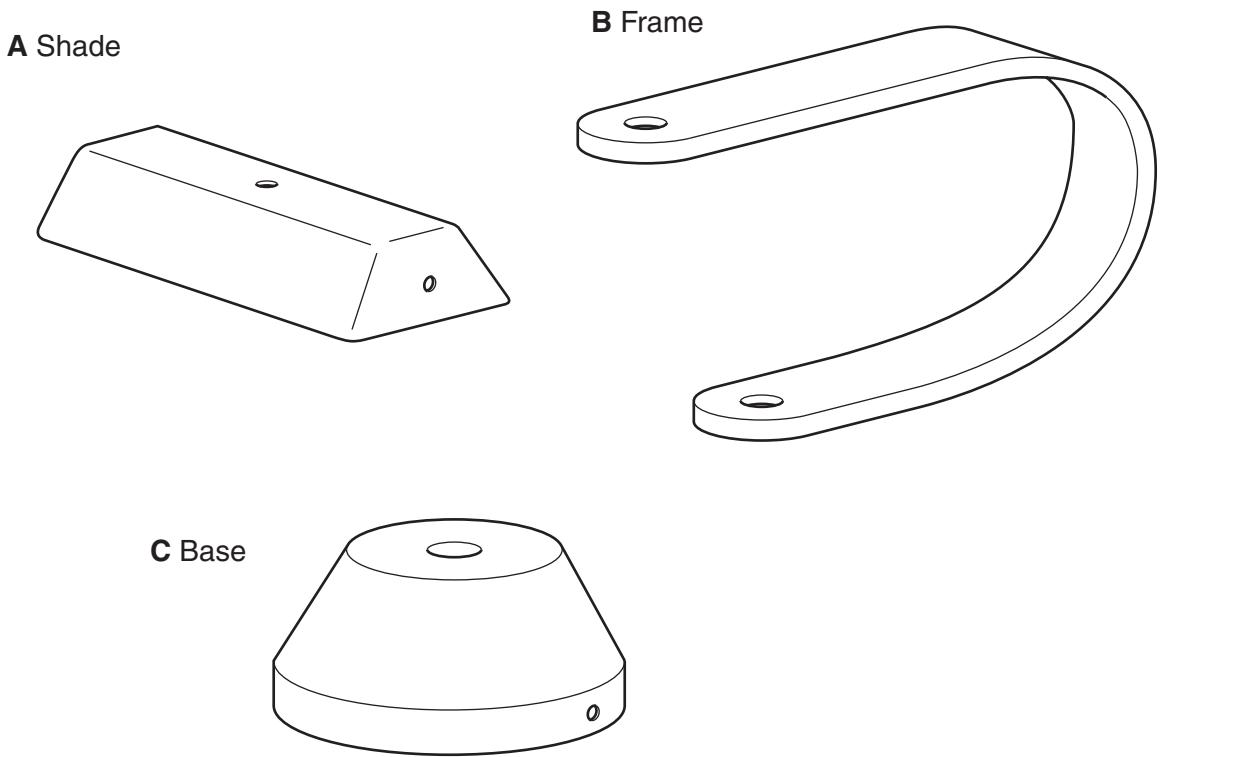

Fig. 9
- (e) Fig. 9 shows parts of the desk lamp.
Choose **one** of the parts shown in Fig. 9.